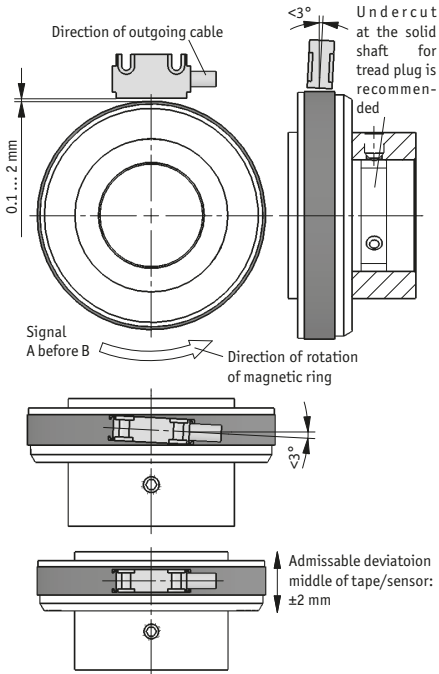

Fig.7: Definition of the counting direction with magnetic ring and assemblage sensor/magnetic ring, gap measure, tolerances
- Provide for a relief groove in the solid shaft (see fig. 7).